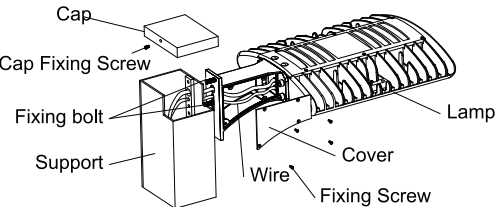

Figure 8-1
Step 1: Loosen cap fixing screw and take cap off. Fixed the fixture on the support and tighten fixing bolts.(Figure 8-1)
Step 2: Let the AC wire go through support hole and connected correctly. Close cap and tighten cap fixing screw after AC cable is well placed in the support. (Figure 8-1)